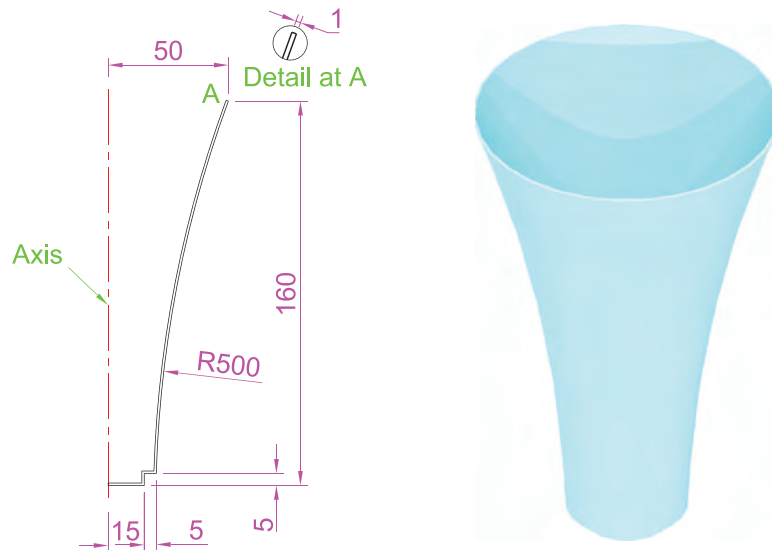

Fig. 18.21 Fourth example – 3D models
1. **Front.** Construct the polyline – left-hand drawing in Fig. 18.21.
4. **Isometric.** Render – right-hand illustration in Fig. 18.21.